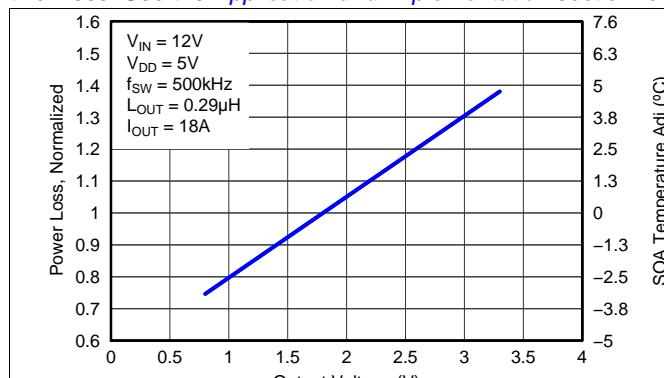

Figure 7. Normalized Power Loss vs Output Voltage
- Normalized Power Loss for output voltage \approx 0.92 (Figure 7)
- SOA adjustment for output voltage \approx -0.9°C (Figure 7)